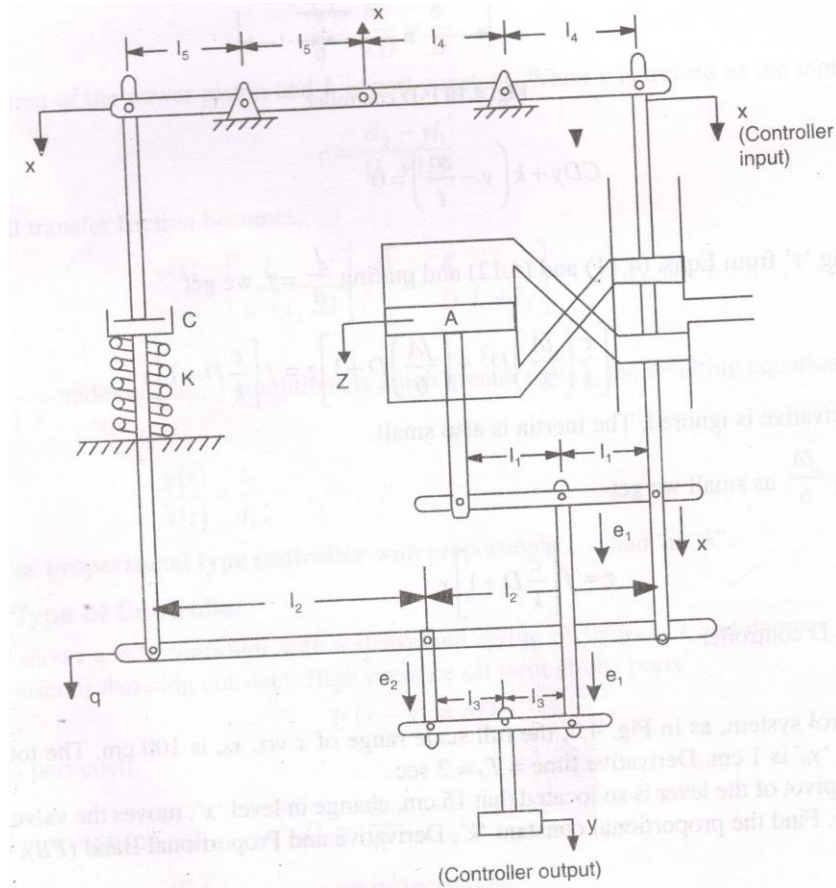

Figure3
9. Derive the expression for transfer function y/x for the hydraulic system shown in figure 3 and find the conditions for which it can act as a PID controller